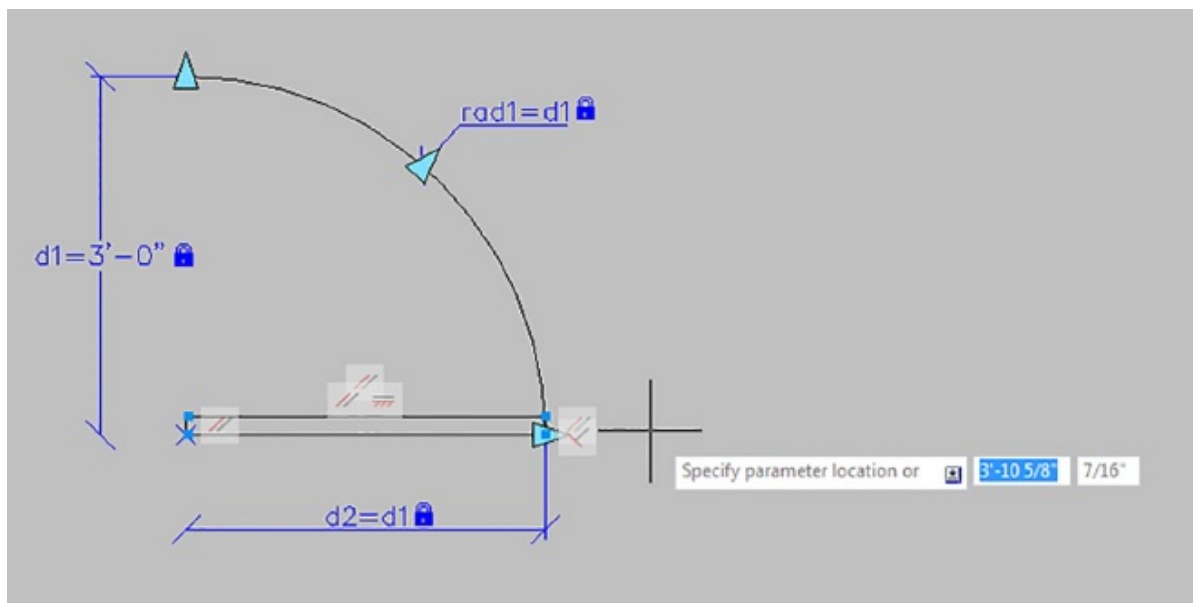

FIGURE 17.16 Placing the block table
3. At the Specify parameter location or [Palette]: prompt, place the block table in the location shown in Figure 17.16.